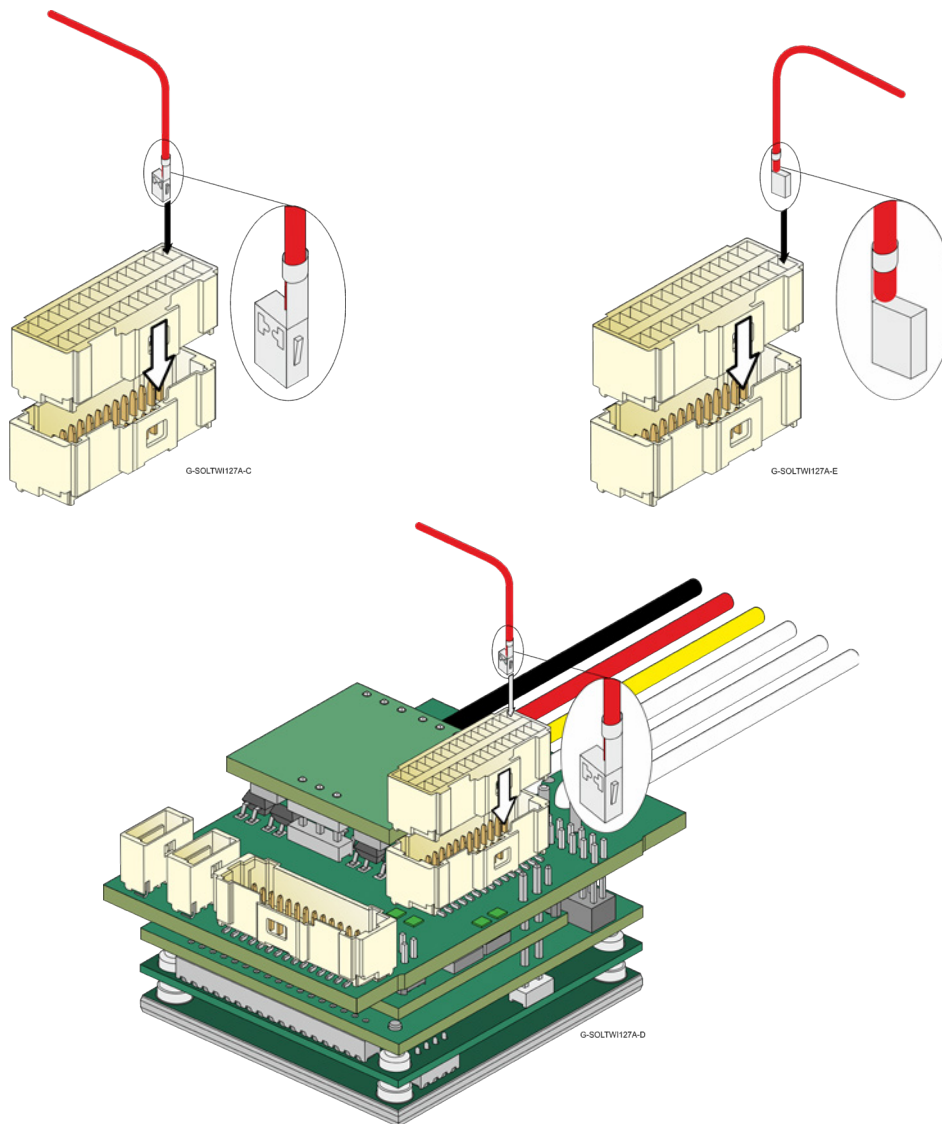

Figure 7: Inserting a wire/pin to the Female Connector
3. Place the connector on a flat surface, in the orientation as shown in Figure 7. Notice that the rectangular slot has a niche at the bottom of the slot.
4. Insert the wire connector to the slot as shown in Figure 7. Make sure that the connector protrusion is inserted to the bottom of the rectangular slot.